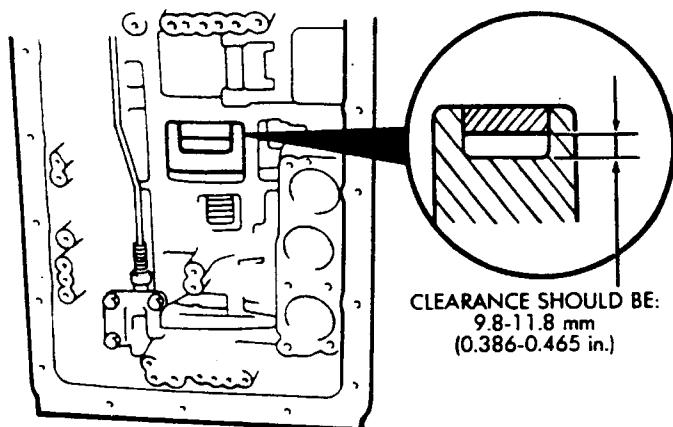

Fig. 30 Checking Input Drum-To-Direct Clutch Drum Clearance
(37) Check clearance between sun gear input drum and direct clutch drum (Fig. 30). Clearance should be 9.8 to 11.8 mm (.386 to .465 in). If clearance is incorrect,